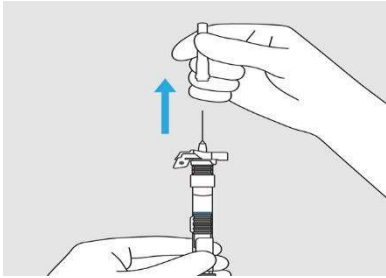

Figure 10: Pull upwards without twisting to remove needle cap
11. Remove the needle cap by pulling it straight upwards. (Figure 10)